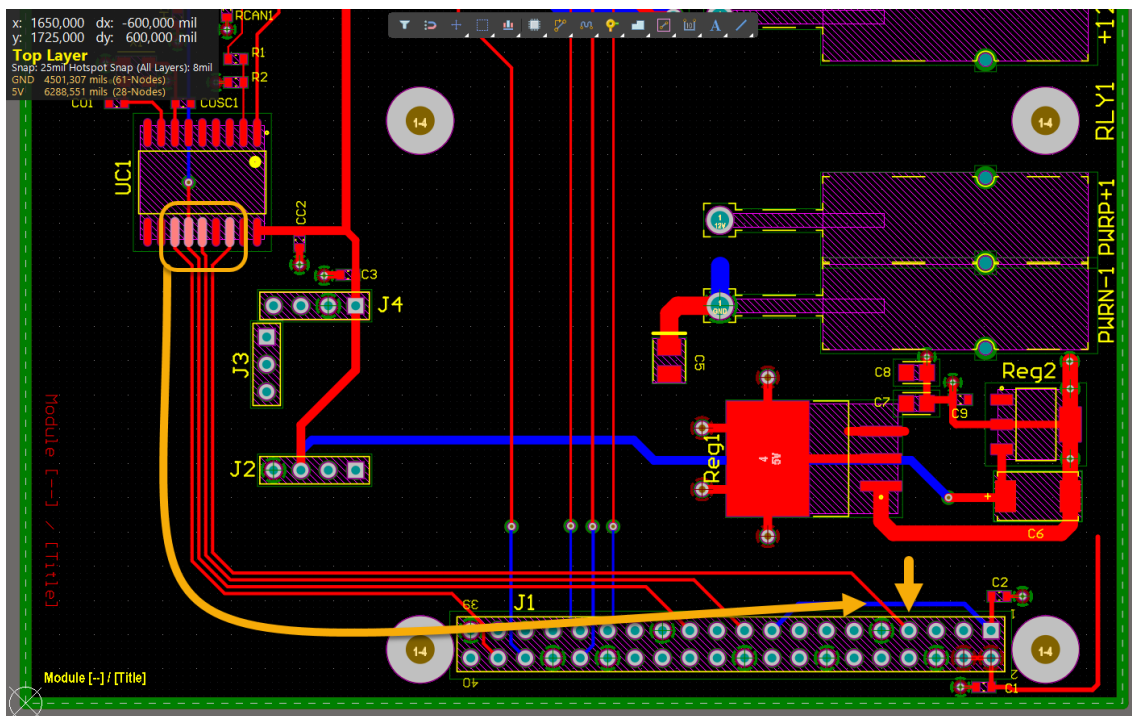

Figure 15. Multi-Trace Routing from UC1 to J1
- f) Left-click to place the first set of vertical routes. Then, move the cursor and hover on the furthest destination pad, which is Pin 7 of J1 as shown in Figure 15. If you're satisfied with the routes, left-click to place them.